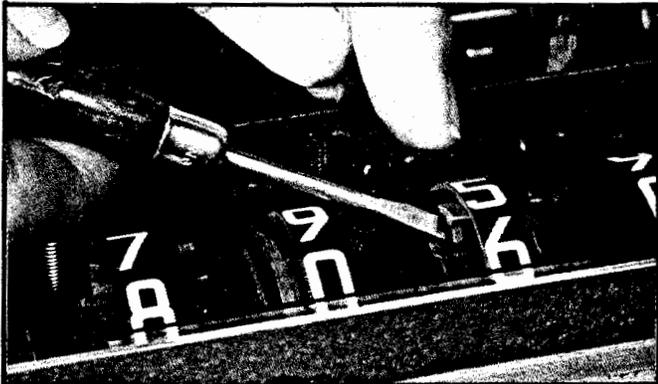

Figure 6-8 Removing Insert from Notch on Second Wheel.
- (a) With the desired First stage trip number appearing in the display window remove the insert located at the top of the wheel. (Refer to Figure 6-8). Place the insert into the previously open notch or save the insert for future use if there is not an open notch.